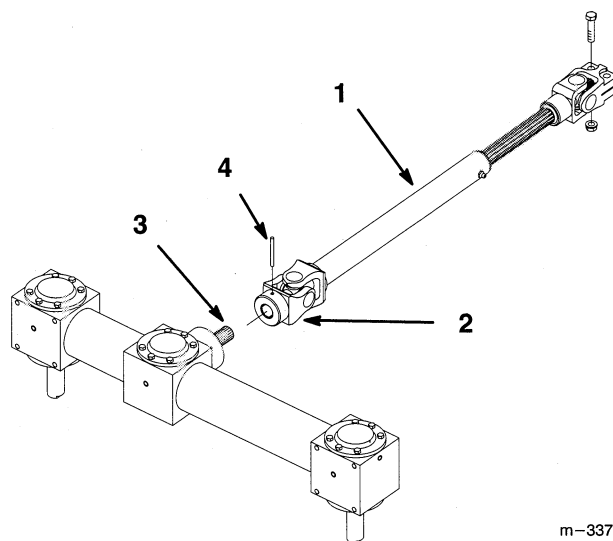

Figure 7
6. Rotate PTO drive shaft so holes in universal joint align with hole in gearbox shaft and slide together (Fig. 7).
7. Drive roll pin through hole in universal joint to secure PTO drive shaft to gearbox shaft (Fig. 7).
1. Drive roll pin through hole in universal joint to remove PTO drive shaft from gearbox shaft (Fig. 7).